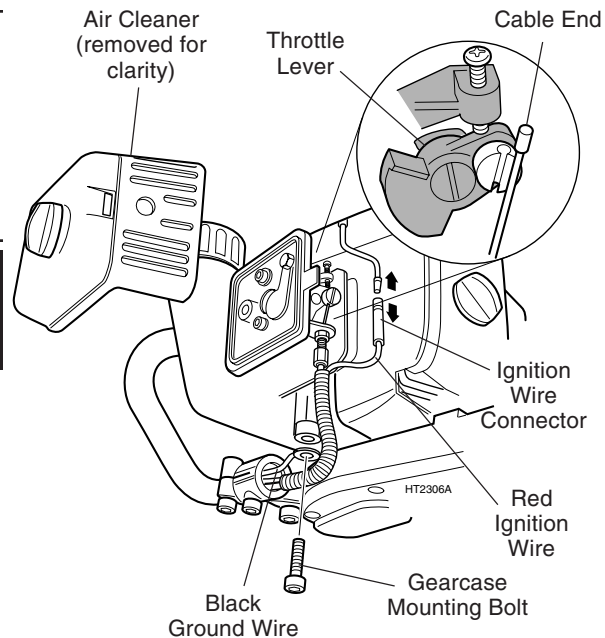

Figure 8. Disconnecting the throttle cable and ignition wiring
- STEP 1.** Disconnect the throttle cable end from the throttle lever on the carburetor (Figure 8).
- STEP 2.** Unplug the red ignition wire from the ignition wire connector, and then temporarily remove the gearcase mounting bolt to disconnect the black grounding wire (Figure 8).